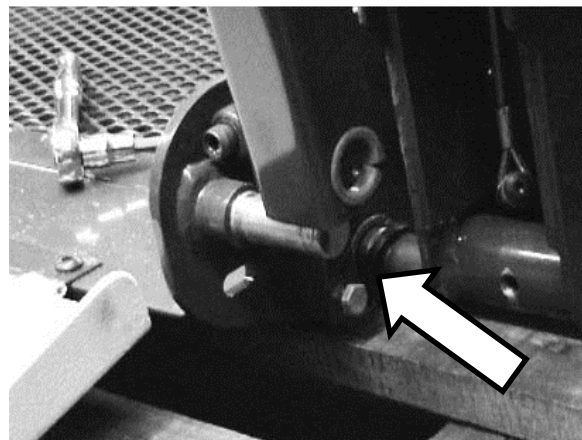

Figure 21. Align Main Shaft with Vertical Arm
8. Refer to **Figure 21**. Verify the lower vertical arm opening with the main shaft on the opposite side of the platform. Add spacer onto the main shaft then insert into vertical arm opening.